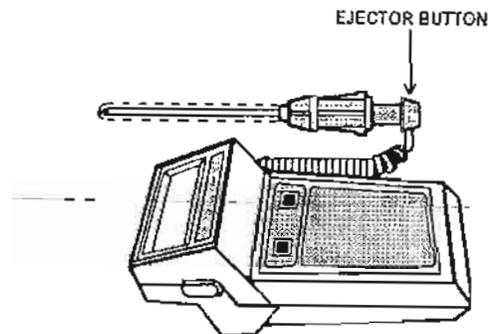

Figure 2-5. Probe.
d. After the temperature measurement is complete, eject the probe cover by firmly pressing the eject button on the top of the probe (fig 2-5).